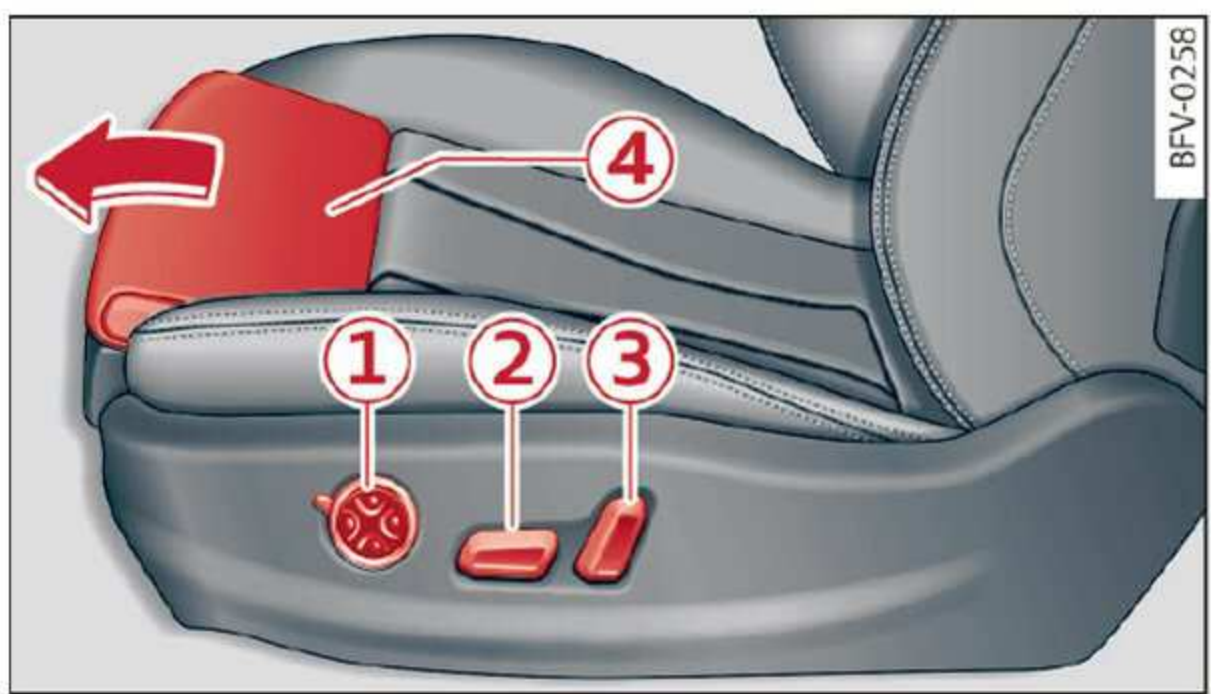

Fig. 48 Front seat: power seat adjustment
- ▶ If you turn the multifunction button ① ⇒ *page 46, fig. 48* to the left or right, the side bolsters on the seat backrests will increase or decrease the lateral support.